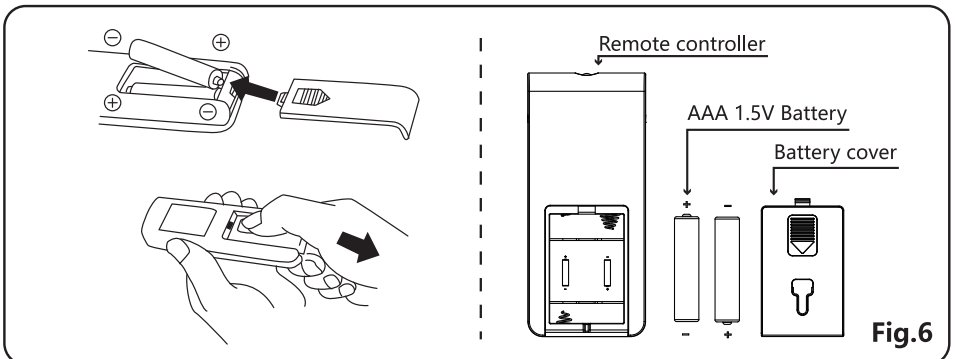

Fig.6
(1) Slide the battery compartment cover back.
(2) Insert the batteries and make sure that they are placed as shown in Fig. 6.
(3) Replace the battery cover.